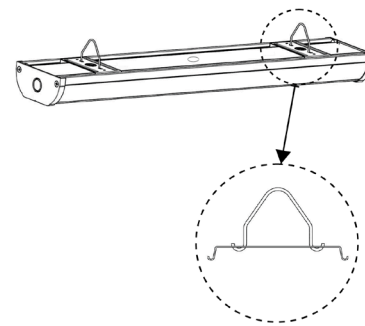

Fig.5 VHOOK MOUNTING
**STEP 3** V Hooks ( 2 ) are provided for chain mounting. Loop V-Hooks through Snap On Bracket at back of Housing as in Fig. 5.